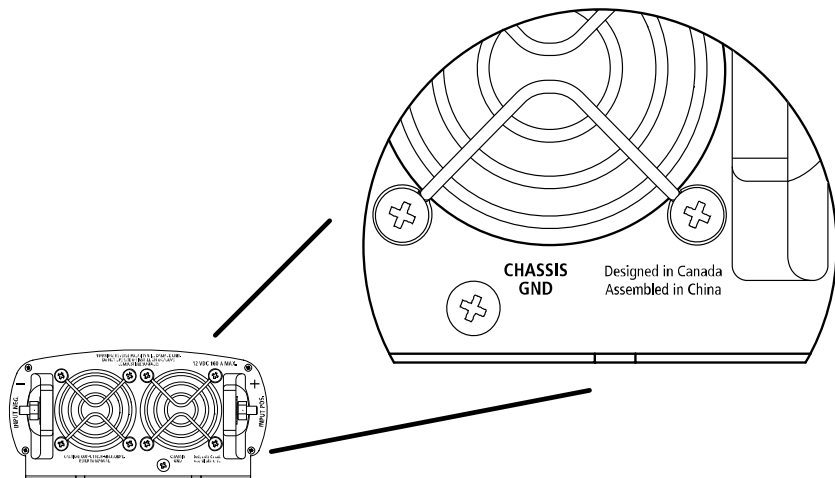

Figure 3-3 DC Panel Connections
See Figure 3-3 on page 3–12.
The Duracell® 1500 has a screw terminal labelled **CHASSIS GND** on the rear panel as shown in Figure 3-3. Follow the guidelines in “Grounding Locations” to connect the inverter’s chassis to the ground.
9. Install the lock washer and nut that are supplied with the inverter. Tighten the nut to a torque of **6–7 lbF-in (0.68–0.79 Nm)**. Make the connection snug enough so the ring terminal does not move around on the positive DC terminal, but do not overtighten. See Figure 3-3, “DC Panel Connections” on page 3–12.